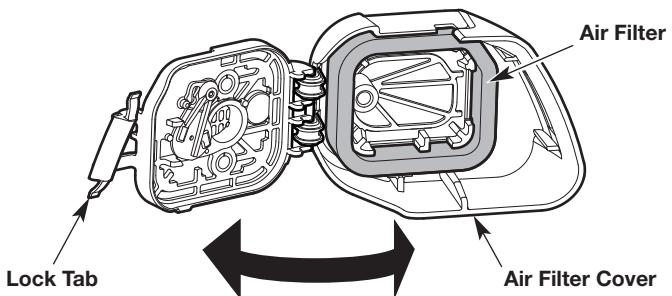

Fig. 23
1. Open the air filter cover: press in the lock tab and swing the air filter cover to the right (Fig. 23).
2. Remove the air filter from inside the air filter cover (Fig. 23).
6. Reinstall the air filter inside the air filter cover (Fig. 23).
7. Close the air filter cover: swing the air filter cover to the left and press it closed until the lock tab snaps into place (Fig. 23).